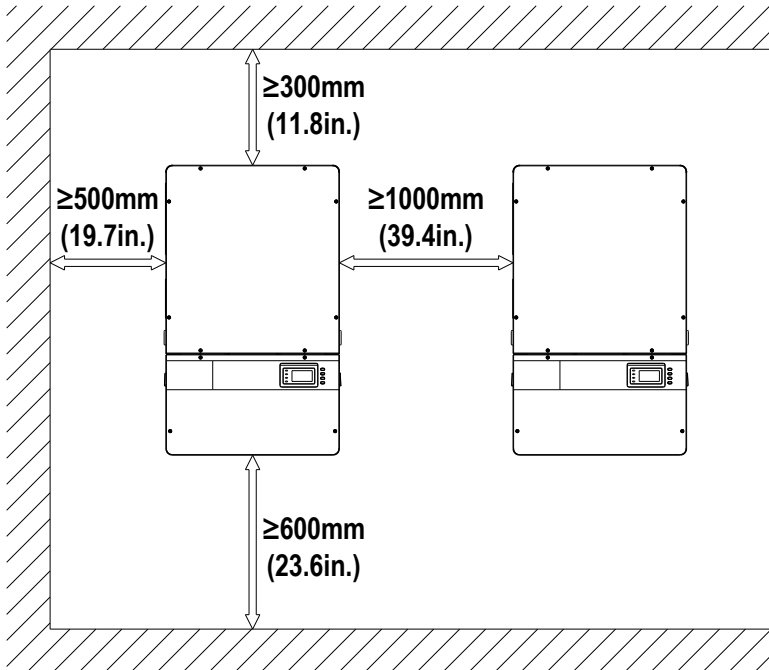

Figure 3-3 Inverter mounting dimensions
3) Installation space requirement (see Figure 3-3):